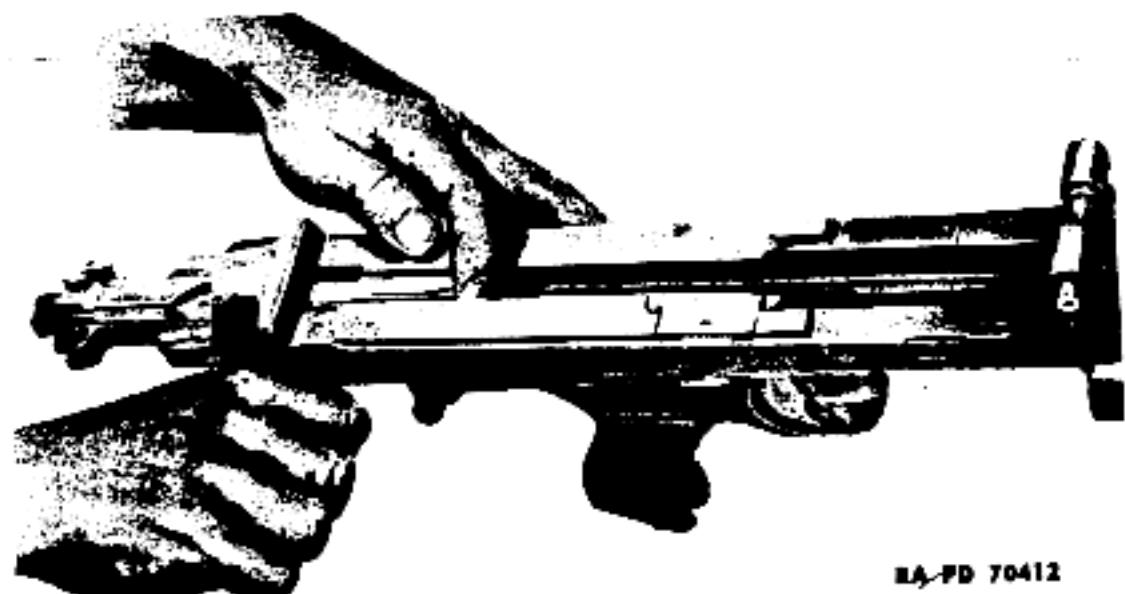

Figure 49 — Removal of Bolt
(1) Pull the cocking handle to the rear and remove the bolt from the receiver (fig. 49).